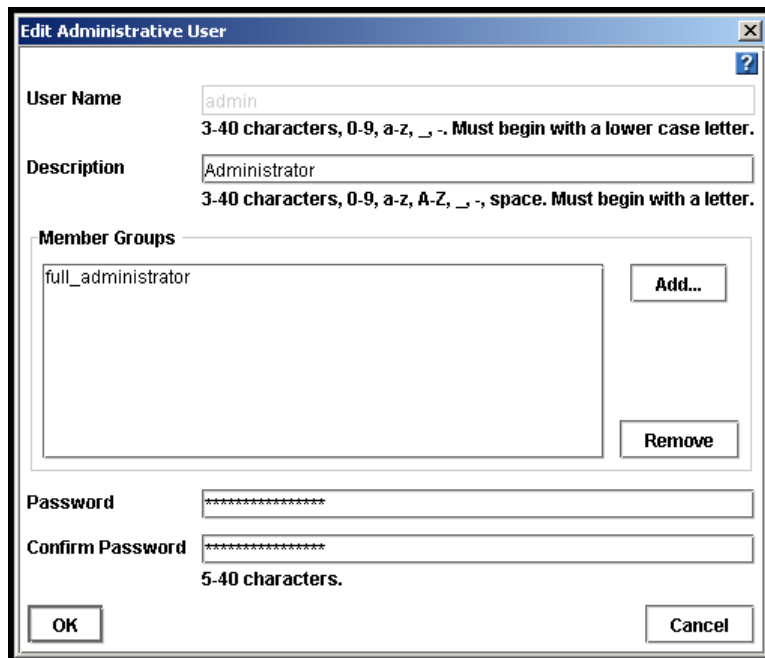

Figure 111. Editing an Administrative User
4. Click Edit. The Edit Administrative User window opens, shown in Figure 111.